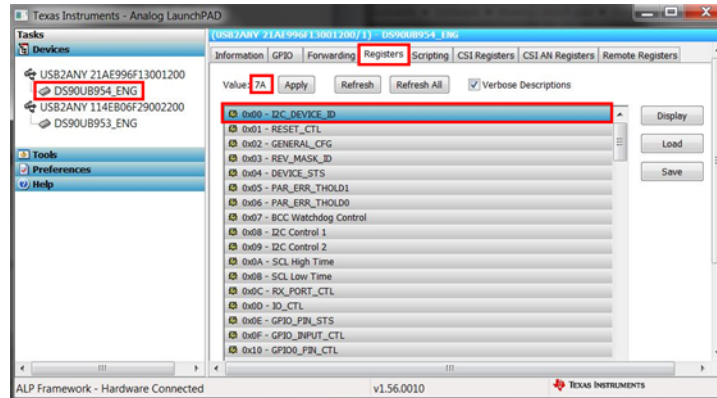

Figure 3-37. Reading I2C Device ID Within the Register Tab
- Verify there is successful local I2C communication that the script worked by going to the register tab, selecting register 0x00 labeled I2C_DEVICE_ID, and reading the value as shown in Figure 3-37. If the value is not 0x7A, then the correct profile has not been assigned to the correct USB2ANY ID. Consult Section 3.4.5 for more information.